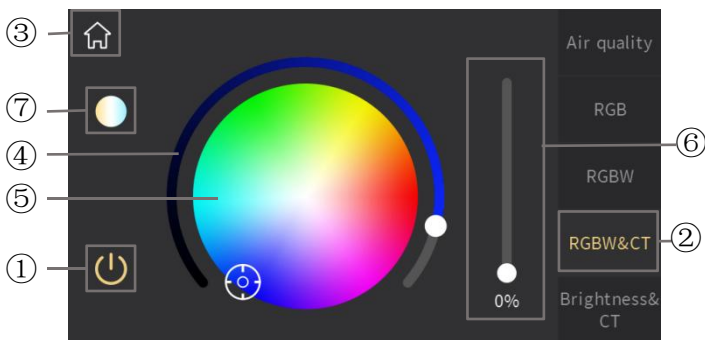
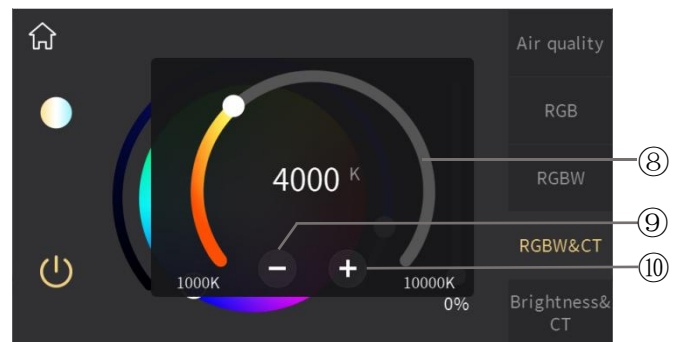
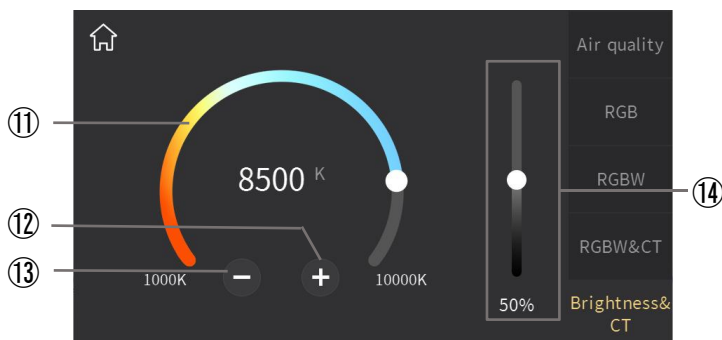

Fig.2.7.3
Fig.2.7.4
Fig.2.7.5
⑥ **This slider for adjusting the brightness of white light, sliding the slider to adjust the brightness effect of white light.**
When RGB dimming is configured as RGBW+Color Temperature, function page interface is similar to RGB but more a slider^⑥ in the right side, as shown in Fig.2.7.3 and Fig.2.7.4. The adjustment of the white light is independent of the RGB type, RGB color adjustment refers to that of RGB type above, which is no longer described herein.
- ⑦ Enter the color temperature controlling interface by touching this icon, as shown in Fig2.7.4;**
- ⑧ This ring slider is to adjust the color temperature of RGB lamp;**
- ⑨ Increase the color temperature value by touching this icon;**
- ⑩ Decrease the color temperature value by touching this icon;**
Color temperature control interface shown as Fig.2.7.4, by sliding the ring slider^⑧ or touching the icon^⑨ and icon^⑩ to control the color temperature of RGB lamp, the adjustment range for each touch of icon^⑨ or icon^⑩ is 100K. After finishing the adjustment, touch the area outside the sub-window to return to the previous level function page, as shown in Fig.2.7.3.
- ⑪ This ring slider is to adjust the color temperature of RGB lamp;**
- ⑫ Increase the color temperature value by touching this icon;**
- ⑬ Decrease the color temperature value by touching this icon;**
When RGB dimming is configured as Brightness+Color Temperature, function page interface shown as Fig.2.7.5. Sliding the ring slider^⑪ or touching the icon^⑫ and icon^⑬ to change the color temperature value, the adjustment range for each touch of icon^⑫ or icon^⑬ is 100K.
- ⑭ Adjust the brightness of the lamp by sliding this slider.**
- ⑮ Decrease the minimum threshold of color temperature by touching this icon;**
- ⑯ Increase the maximum threshold of color temperature by touching this icon;**
⑰ **Adjust the minimum threshold of color temperature by sliding this slider;**
⑱ **Adjust the maximum threshold of color temperature. The operation is the same as adjusting the minimum threshold color temperature, which is not described in detail here;**
⑲ **If the minimum value is greater than or equal to the maximum value, pop up a red reminder;**